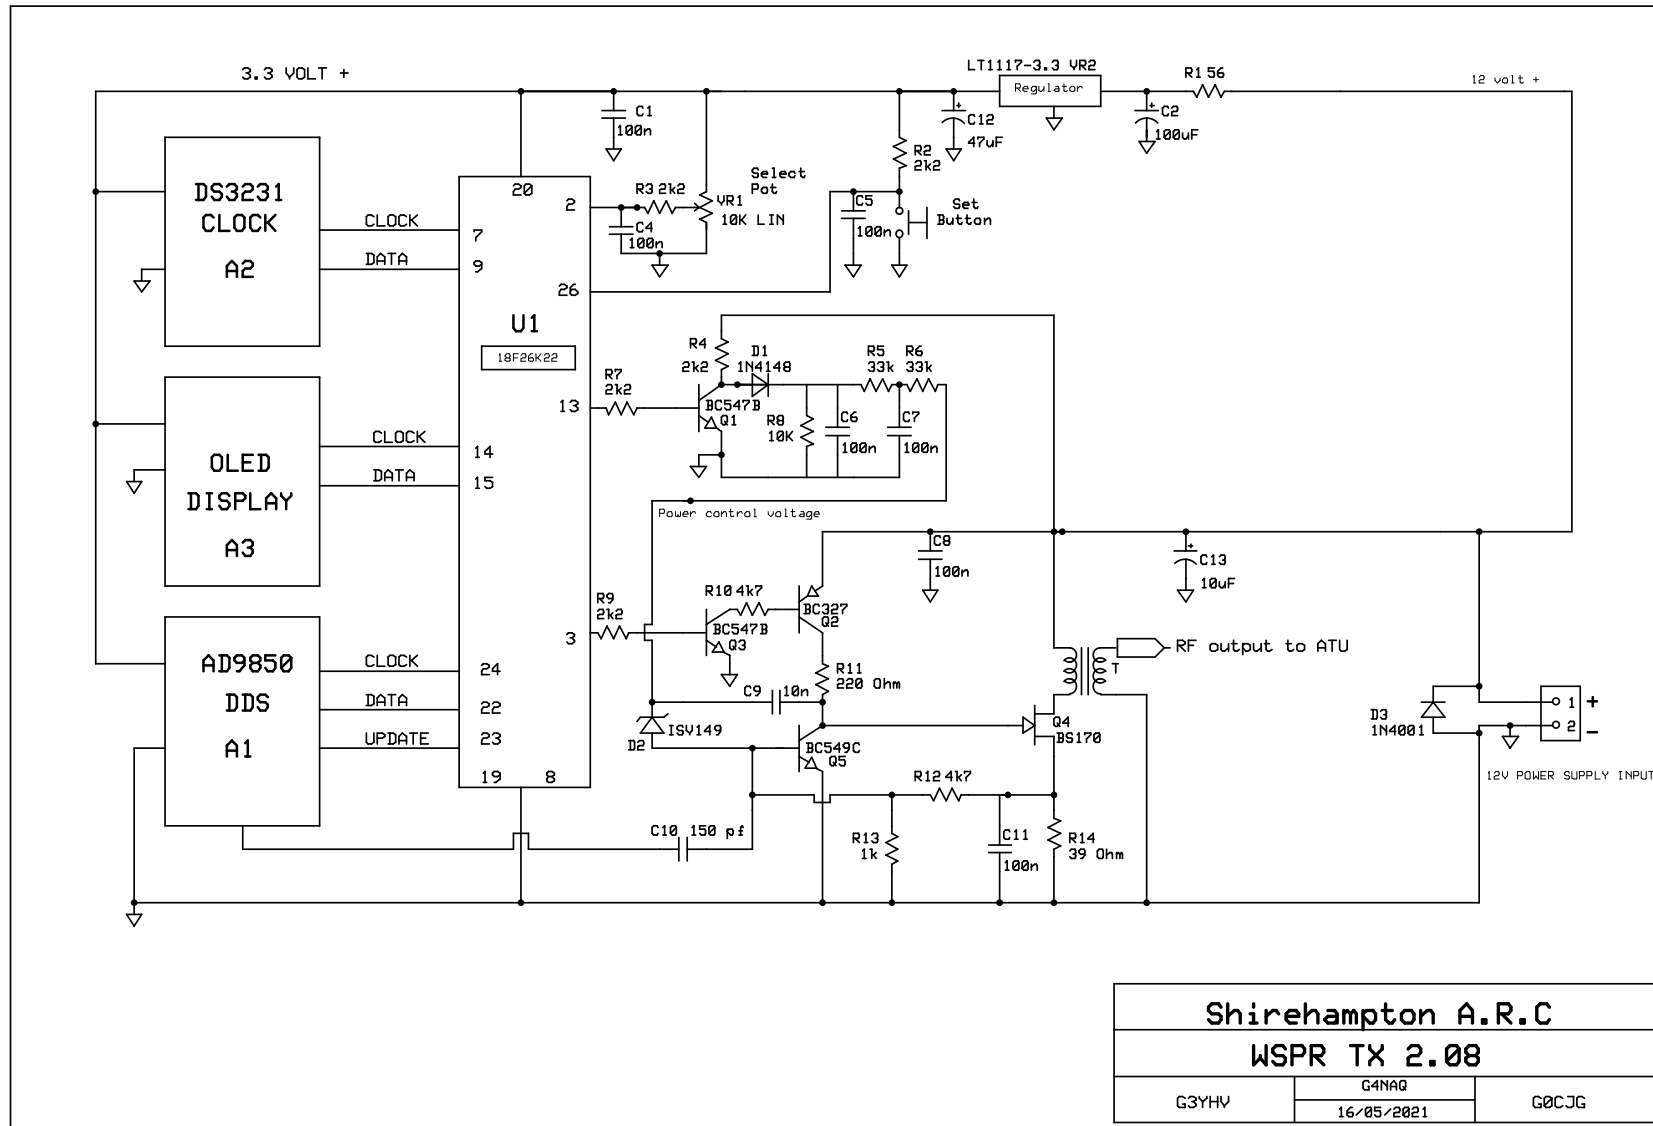

Figure 2 - Circuit Diagram
- Figure 2 - Circuit Diagram 6